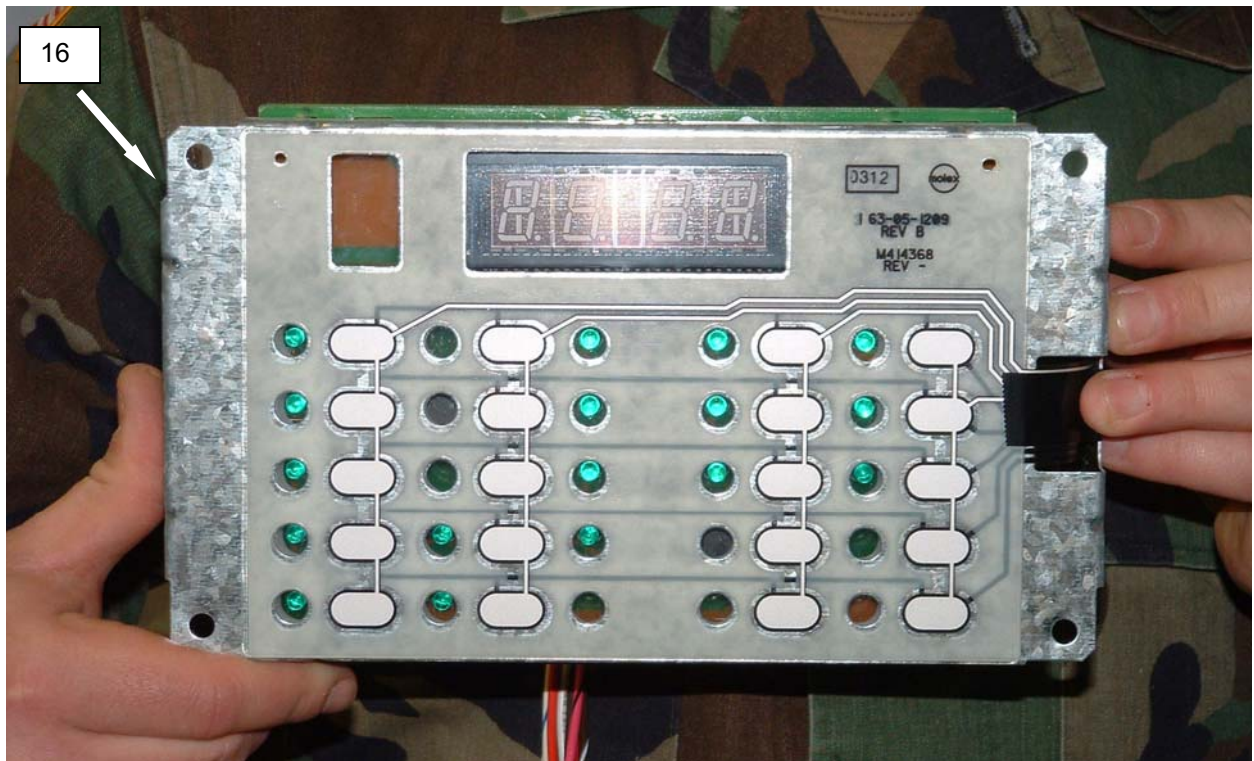

Figure 13. Replace the Control Panel Display.
4. Tag and disconnect wiring from control panel printed circuit board (**Figure 13, Item 14**).
5. Remove nuts (**Figure 13, Item 15**) retaining control panel (**Figure 13, Item 16**) and remove control panel.
6. Install replacement control panel and retain with nuts (**Figure 13, Item 15**).
7. Connect wiring to replacement control panel printed circuit board (**Figure 13, Item 14**) as tagged.